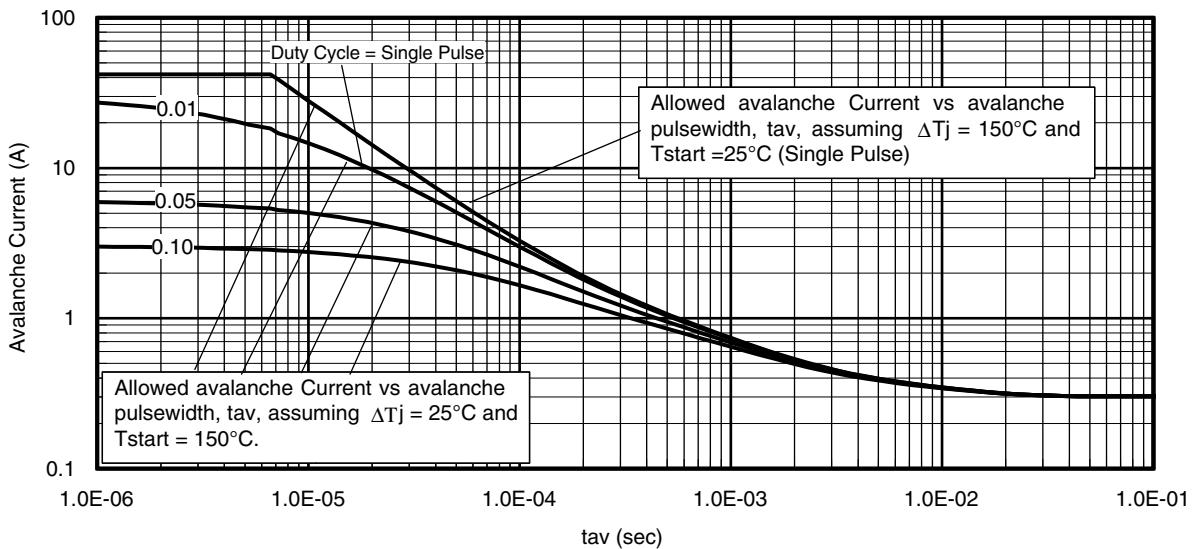

Fig 14. Typical Avalanche Current vs.Pulsewidth
**Notes on Repetitive Avalanche Curves , Figures 14, 15:
7. ΔT = Allowable rise in junction temperature, not to exceed T_{jmax} (assumed as $25^\circ C$ in Figure 14, 15).